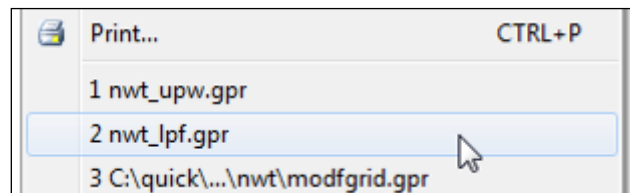

Figure 4 Reopen the nwt_lpf.gpr model
2. Select the directory that ends in “nwt_lpf.gpr” from the list of recent files at the bottom of the *File* menu (Figure 4).